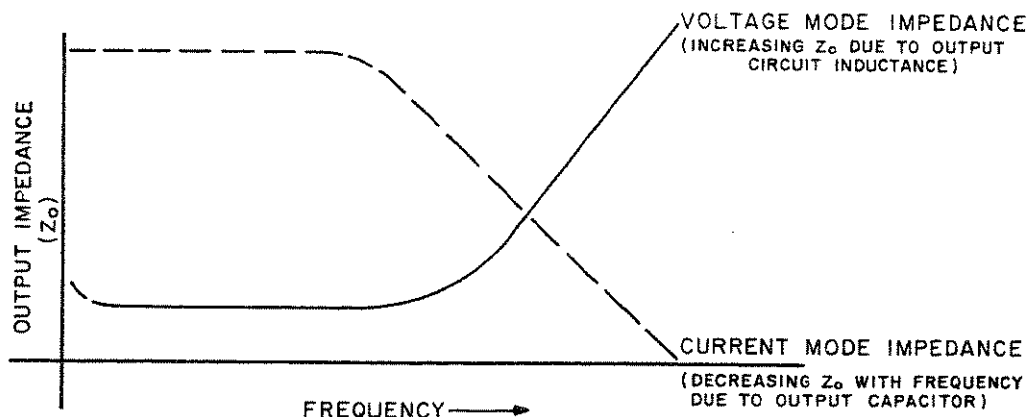

FIG. 3-1 TYPICAL OUTPUT IMPEDANCE VS. FREQUENCY PLOT FOR STABILIZED D-C SOURCES.
- 3-15 **LOAD WIRE SELECTION.** The stabilized d-c power supply is definitely not an ideal voltage or current source with zero output impedance (VOLTAGE MODE) or infinite output impedance (CURRENT MODE) at all frequencies: All *voltage* sources have some amount of impedance which *increases* with frequency and all *current* sources have an output impedance which *decreases* with frequency (refer to FIG. 3-1).